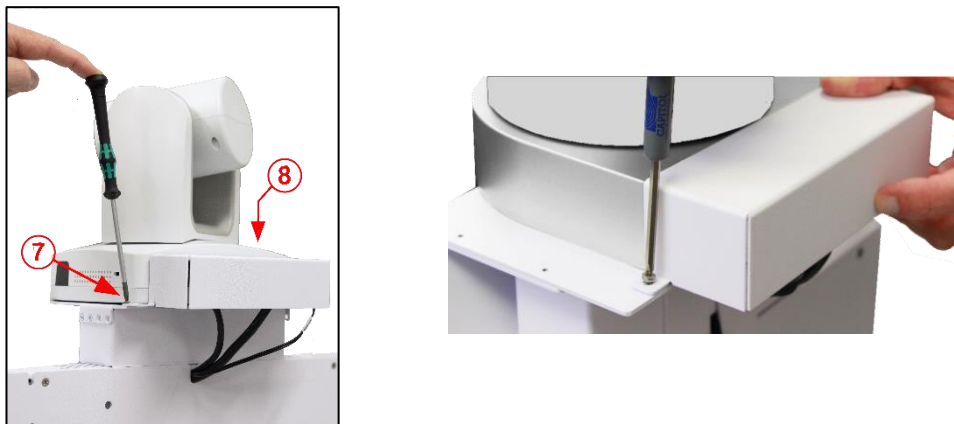

Figure 7. Attaching Cable Cover (20X left, 30X right)
6. Place the camera Cable Cover on the rear of the camera mounting plate and attached with the two supplied screws, one on either side (#7) and (#8), as shown in Figure.7.